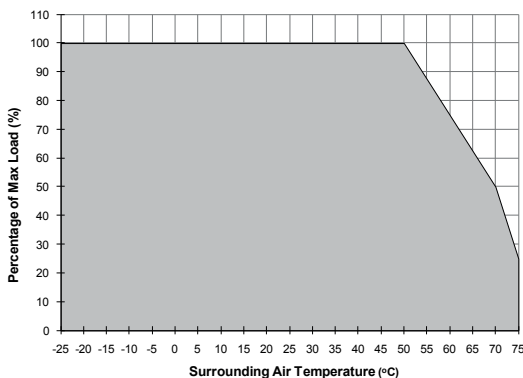

Figure 6
5.4. Thermal behavior (Fig. 6)
Ambient Operating temperature	-25°C to +75°C [-13°F to 167°F] (Refer to Fig. 6)